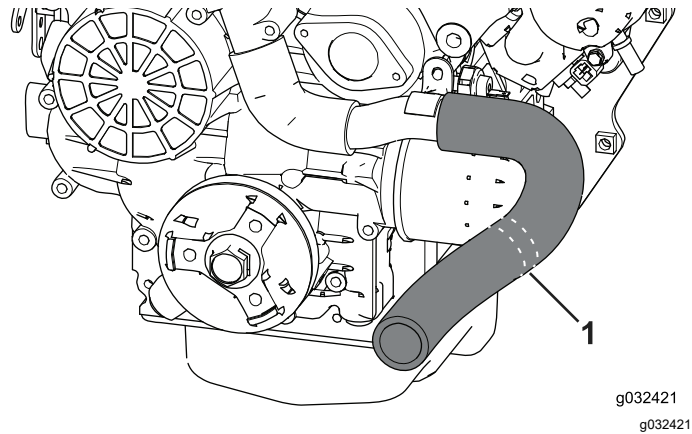

Figure 12
1. Locate and remove the radiator hose (Figure 12).
2. Use a cutting tool to cut the radiator hose at the cut lines (Figure 12).